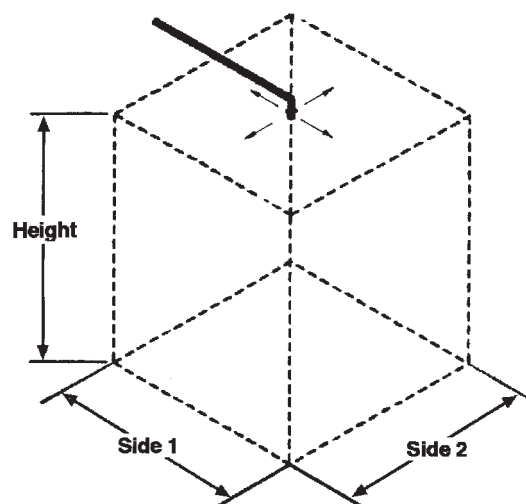

Figure 3-1. Nozzle Location
The nozzle is to be mounted in the center (See Note) of the protected area, with the discharge holes in the nozzle no greater than six (6) inches from the ceiling. For duct protection, the nozzle is to be mounted in the center. **See Figure 3-1.**